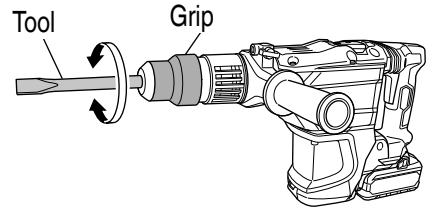

Fig. 28
- (b) Turn the Grip or the Tool as illustrated in **Fig. 28** and fix the tool to the desired working direction.
- (c) Switch the selector lever to “hammering” according to the procedures mentioned in the above item (1) and secure the position of the tool.